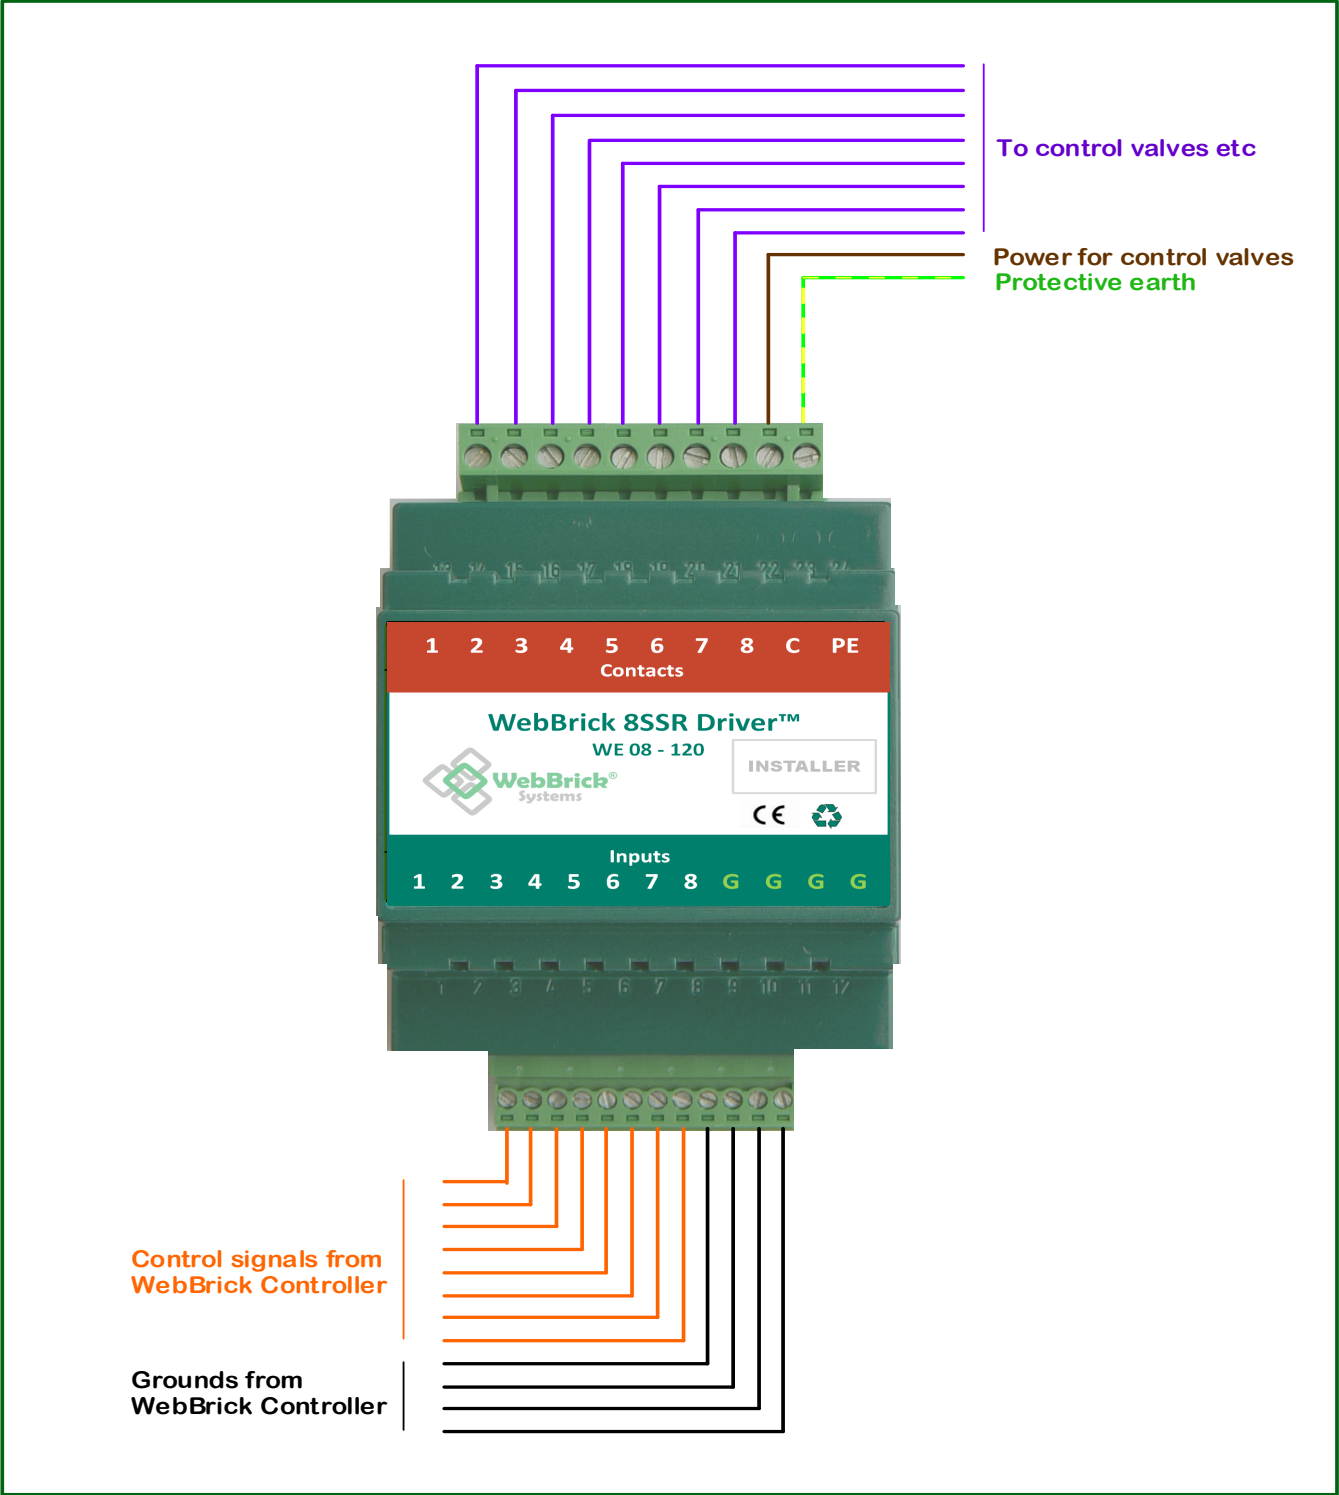

Fig 2.
- The contacts 1-8 are normally connected to each of the live sides of the heating valves to be controlled and a ground/neutral link taken from the valve to the power supply's ground/neutral, see Fig 2.